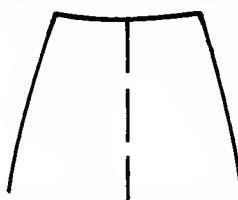

Fig. 71. Guide basting.
- B. Make a running stitch with a long float on the right side (Fig. 71).